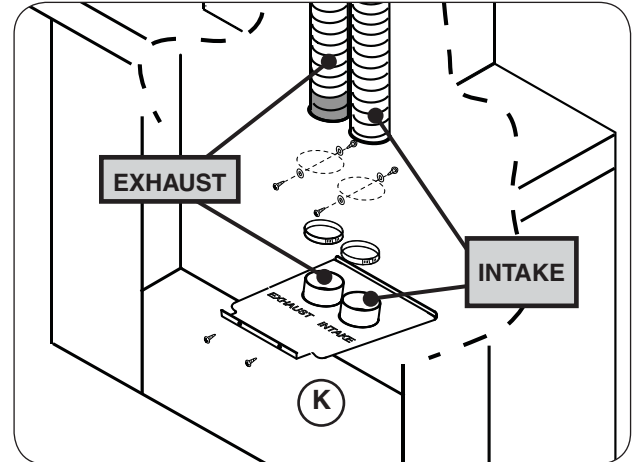

Fig. 26-2 Install vent adapter
11. Remove any excess slack in the pipes. Then attach the pipes to the vent adapter using only the four provided #10 x $\frac{3}{4}$ " screws, flat washers, and a Phillips screwdriver. Further secure with the supplied pipe clamps. See Fig. 26-2, K.
- Important:** Ensure the marked / up arrow pipe is connected to the exhaust port on the insert. The vent adapter is permanently marked, see Fig. 26-2.